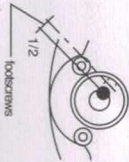

Fig.10
- (1) Turn the footscrews, making the bubble halfway to centre (Fig.10).